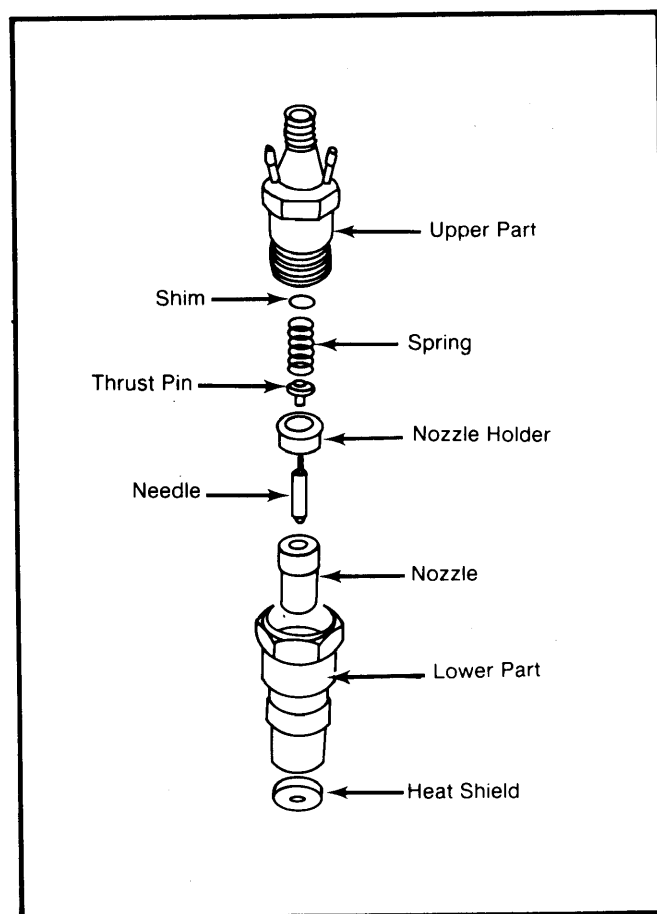

Fig. 3 Disassembled View of Injector Nozzle
2) Set cylinder No. 1 at TDC and injection. Both cam lobes should point up at equally large angles. Flywheel timing mark should be at "0". See Fig. 3.